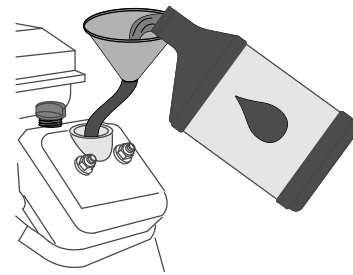

Figure 75
2. Slowly pour 1.6 L (56 fl oz) of the specified oil into the filler neck (Figure 75) of the engine; refer to Engine-Oil Specification (page 55).